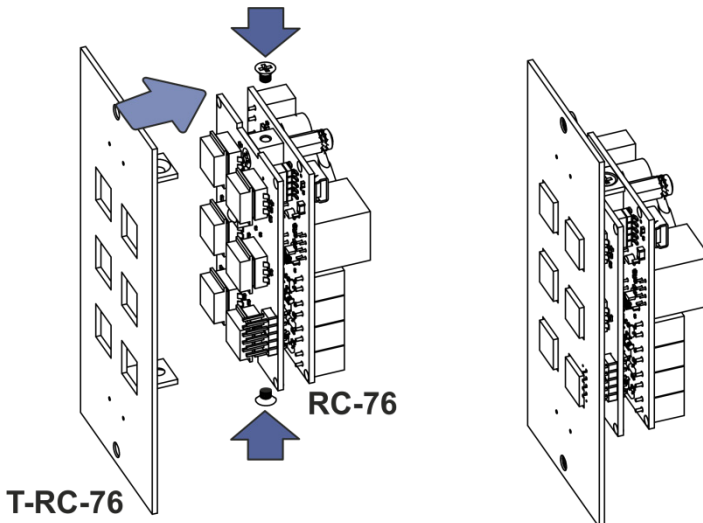

Figure 8: T-RC-76/T-RC-78 Installation
2. Fit the **T-RC-76** over the buttons of the **RC-76**; insert the two button cover plate mounting screws through the **T-RC-76** mounting bracket screw holes and tighten them (see Figure 8).